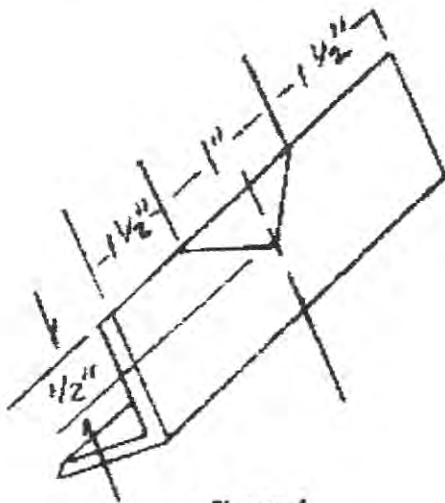

Figure 4
-Make the adjustable vee. Take the 4" piece of 1 1/4" X 1 1/4" X 3/16" angle iron and mark it out as shown in figure 4, below. Heat the angle iron to yellow and cut the vee with a sharp butcher or hot cutter. Straighten the part out if needed.